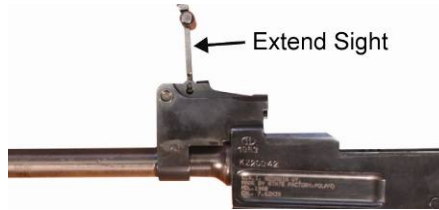

Figure 9. The Rear Sight Extended.
- a. Extend the rear sight. Refer to Figure 9.